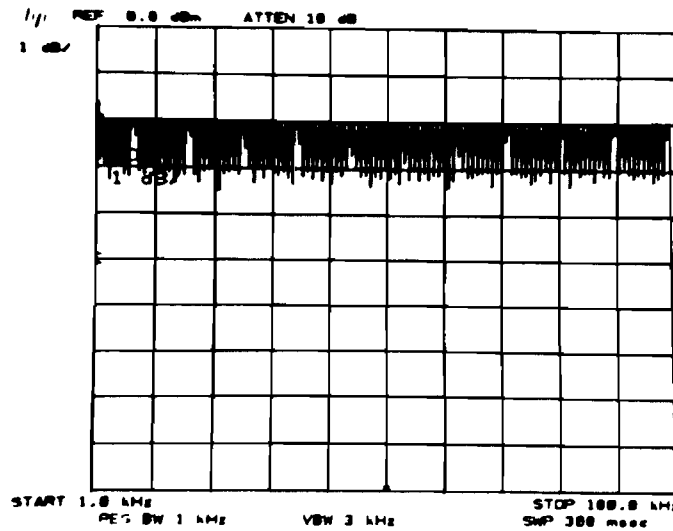

Figure 2-15.
11. Press TRACE A **MAX HOLD**. Press MODULATION SWP on the function generator. When function generator completes one sweep, press TRACE A **VIEW**. Trace should appear as in Figure 2-15.